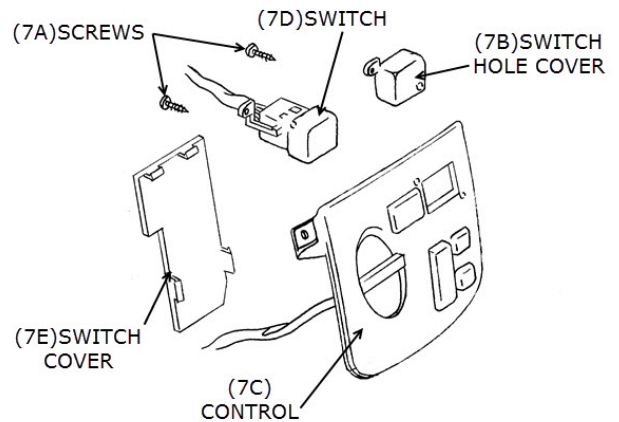

FIG 7
12. REMOVE THE SWITCH COVER (7E) ON THE BACK OF CONTROL PANEL (7C). SEE TO FIGURE 7.
13. REMOVE THE TWO SCREWS (7A) HOLDING THE SWITCH HOLE COVER (7B) TO THE CONTROL PANEL (7C). SEE TO FIGURE 7.
14. INSTALL THE SWITCH (7D) (NOTE: PART OF 6D) USING THE SCREWS (7A) REMOVED IN THE PREVIOUS STEP. SEE TO FIGURE 7.